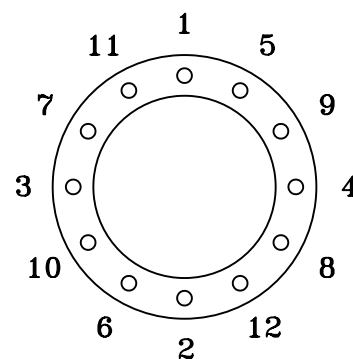

Fig.4
- 7 Evenly tighten the bolts around the end ring by diametrically alternating opposite positions (See fig. 4) at approximately 34 Nm increments until the recommended torque is achieved. Wait ten minutes and then re-torque.